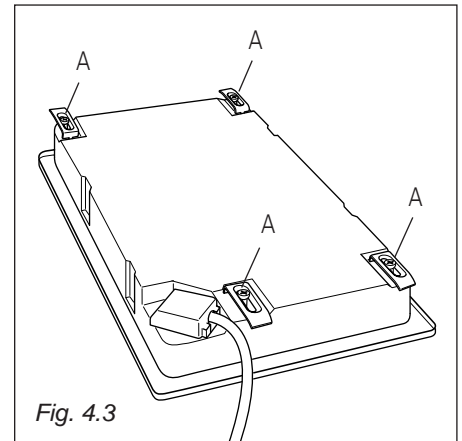

Fig. 4.3
- ✓ Turn the cooking hob over and put tabs "A" into the mountings, only tighten screws "B" a few turns (fig. 4.3).